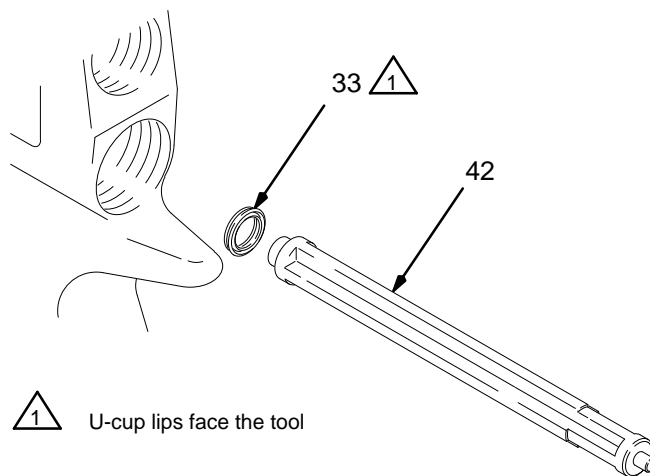

**Fig. 36** \_\_\_\_\_ 02762
2. Place the packing adjustment nut (31) over the packing assembly and start the threads into the gun, then remove the needle.
3. Insert a thin-blade screw driver (A) through the back of the gun and into the packing adjustment nut (31). See Fig. 36. Do not nick or damage parts with the tool. Turn the screw with the screw driver (about 3 turns); the packing will still be loose.